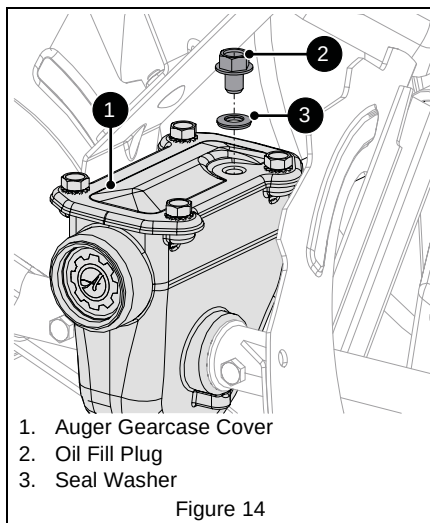

Figure 14
2. Remove oil fill plug and seal washer. See Figure 14.